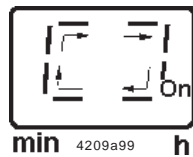

Fig. 18 - Green display (operating time)
- Pump "running" is indicated on the display by a **rotating light movement of the green display** (operating time)(fig. 18).